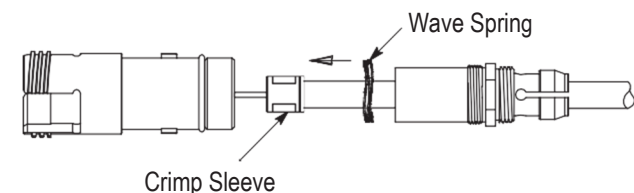

Figure 13
7. Using an applicator swab, apply a *thin film* of the grease around the O-ring of the EB insert and around the inside of the front seal on the inside of the housing. Remove any excess grease. Refer to Figure 13, Detail A.
8. Align the internal key (small bar inside) of the housing with the keyway (slot along the side) of the EB insert, and slide the fixture along with the EB insert assembly into the housing. See Figure 13, Detail B.
11. Slide the wave spring over the crimp sleeve and into the housing. See Figure 13, Detail C.